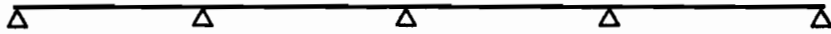

Fig. Q3
3. (a) With reference to the beam shown IN Fig. Q3, indicate how familiarity with influence lines might assist qualitatively in the assessment of the most critical loading patterns - from the point of view of bending moments - for the two outer spans.